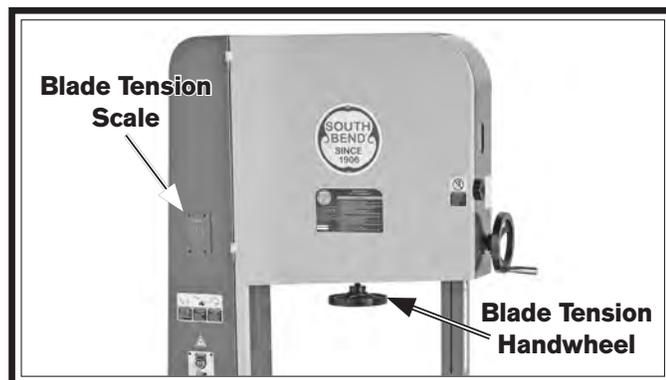

Figure 26. Blade tensioning controls.
4. Rotate blade tension handwheel (see **Figure 26**) until blade tension matches mark on blade tension scale for appropriate blade thickness. Rotate handwheel *clockwise* to increase blade tension. Rotate handwheel *counterclockwise* to decrease blade tension.